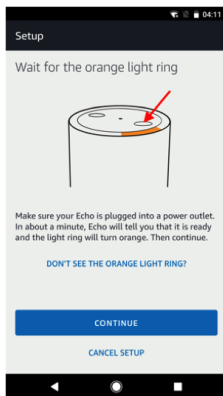

fig.9
- Long press the dot button on the top of your Echo device until the orange light shows up (fig. 9), and then tap 'CONTINUE'. When your device is connected to Echo, tap 'CONTINUE' (fig. 10-11).